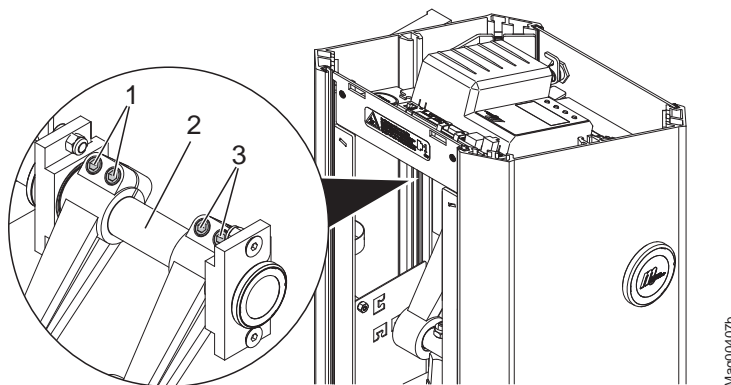
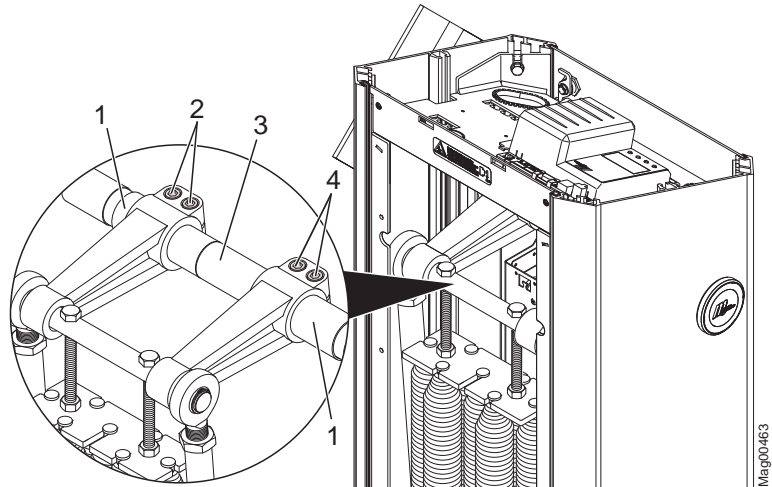

Fig. 27: Access XL – Loosen hexagon socket screws
Fig. 28: Access XXL – Loosen hexagon socket screw
- Loosen the 4 hexagon socket screws 10 AF at the two clamping levers. Loosen the 4 hexagon socket screws SW 10 at the two clamping levers. Do not remove the hexagon socket screws. → For Access XL see page 64, Fig. 27 and for Access XXL see page 65, Fig. 28.